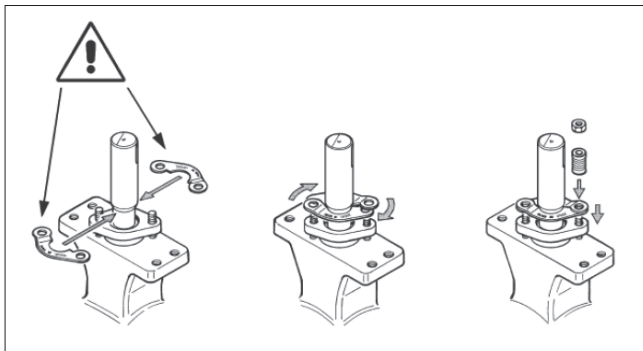

Fig. 25 Mounting the retaining plates
- Unfasten the nuts (494) and remove the disc spring kits (495), the retaining plates (476) and the gland (450).
- Remove old packing rings (451). Do not damage the surfaces of the packing ring counterbore and shaft. It is not necessary to change anti-extrusion ring (452).
- Mount the retaining plates with the text UPSIDE on top (see Figure 25).